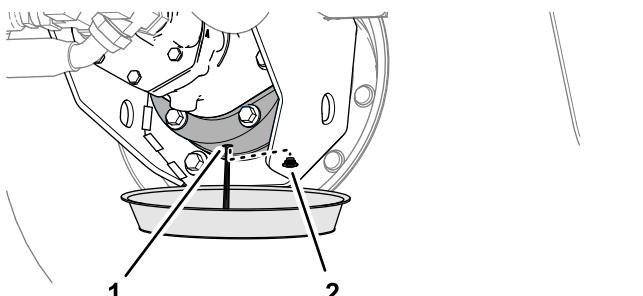

Figure 89
6. Place a drain pan under the brake housing, remove the drain plug, and allow the oil to drain completely (Figure 89).